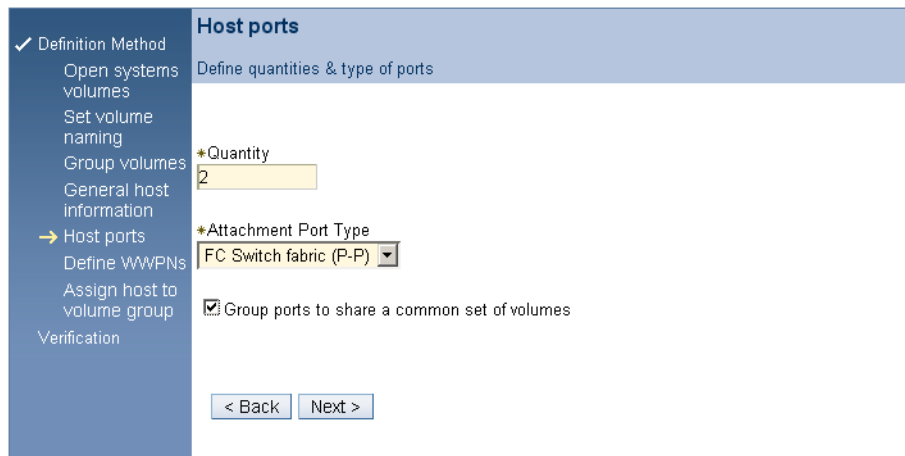

Figure 11-8 Express configuration: Specifying the host ports
- The next window, Figure 11-8, allows you to specify the quantity and type of host ports for the host attachment (either FC switched fabric for SAN attached hosts or FC arbitrated loop for direct attached hosts). You can additionally group the host ports to share a common set of volumes, so that this group of host ports is treated as a single host attachment.